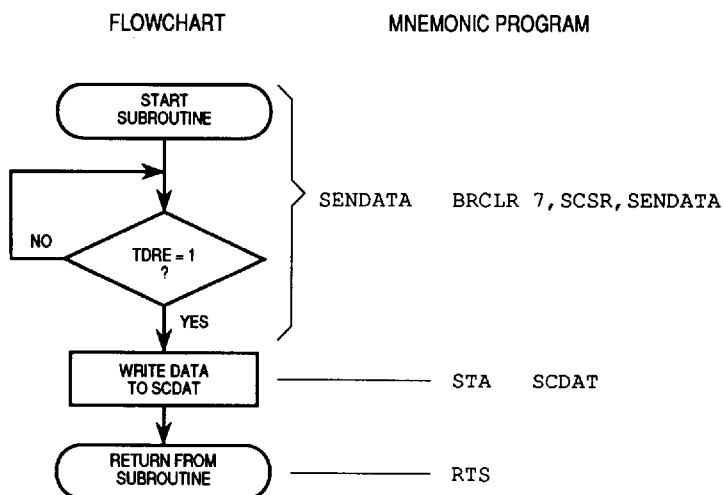

Figure 3-25. SCI Normal Transmit Operation Flowchart
3.6.6.2 NORMAL TRANSMIT OPERATION. Refer to Figure 3-25, a flowchart of the normal transmit operation.